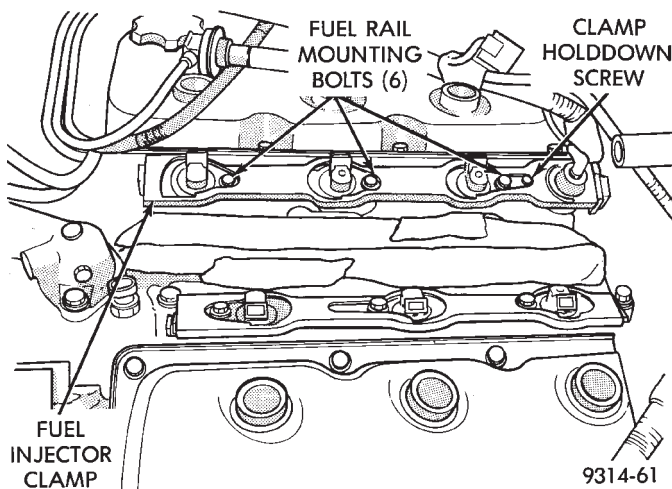

Fig. 25 Fuel Injector Clamp
(4) Remove fuel rail mounting bolts (Fig. 25).
(5) Remove injector clamp screw (Fig. 25).